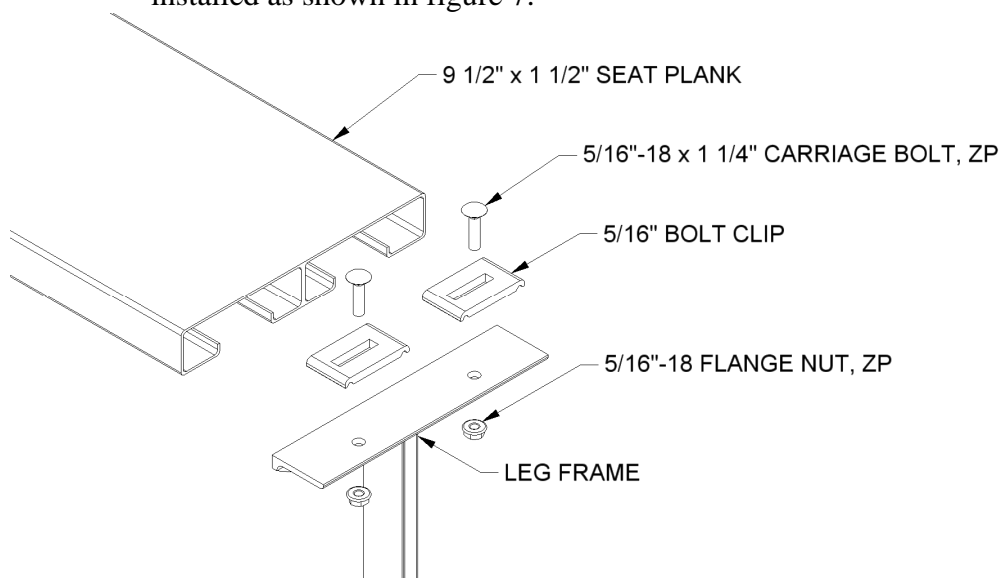
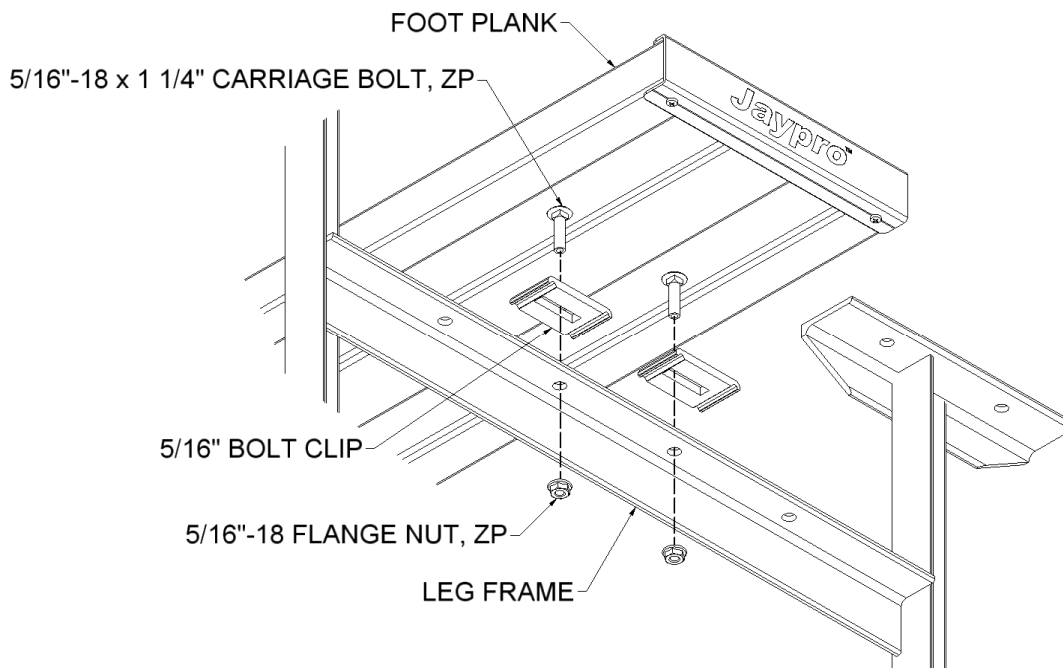
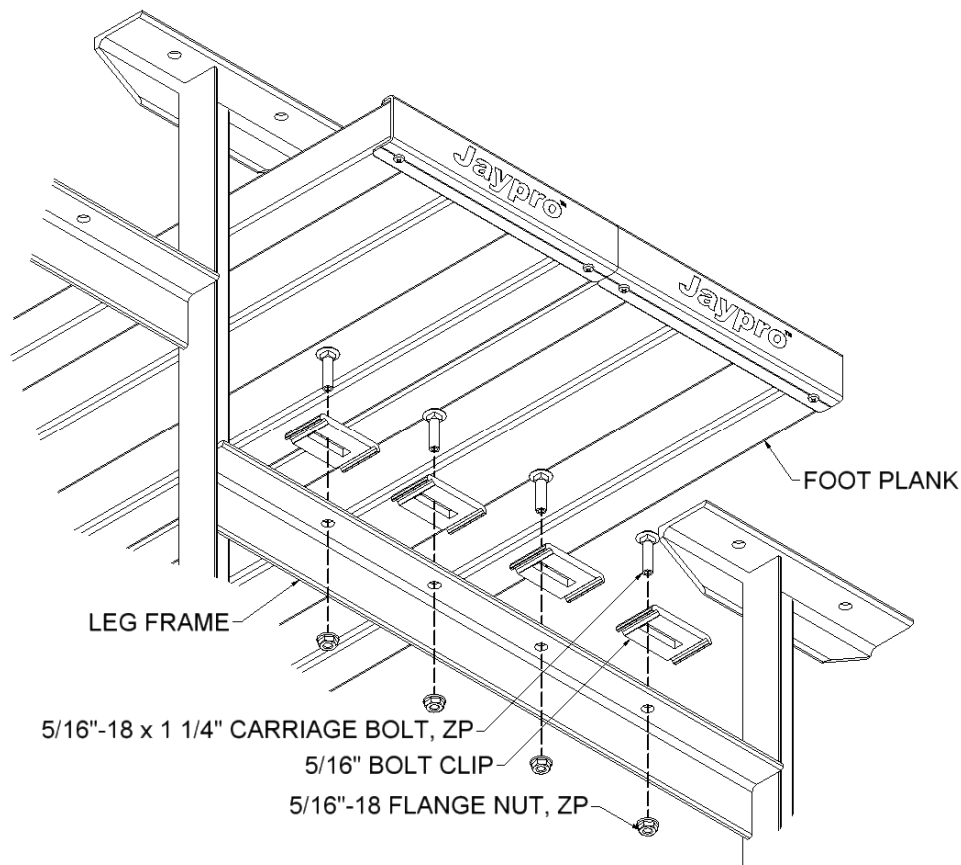

FIGURE: 5
FIGURE: 6
FIGURE: 7
5. Making sure the undercarriage frame is square and plumb, install the seat and foot planks. The seat and foot planks are best installed starting from the front seat and working towards the back. Use the hardware and bolt clip as shown in figure 5. Position planks so they are centered on the frame, with equal amount of overhang on each end. Note that standard bleachers (BLCH-327AL & BLCH-327TRG) have a single foot plank, which is centered on the support frame, see figure 6. Preferred bleachers (BLDP-327AL & BLDP-327TRG) have double foot planks and are installed as shown in figure 7.